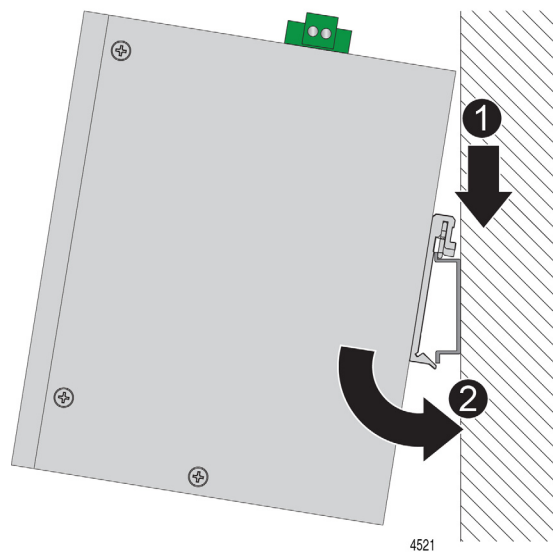

Figure 12. Hook the Bracket on the DIN Rail
2. Hook the top of the bracket on the upper side of the DIN rail and snap down the media converter unit, as shown in Figure 12.
6. Hook the top of the bracket on the upper side of the piece of the DIN rail and snap down the media converter unit, as shown in Figure 12 on page 33.